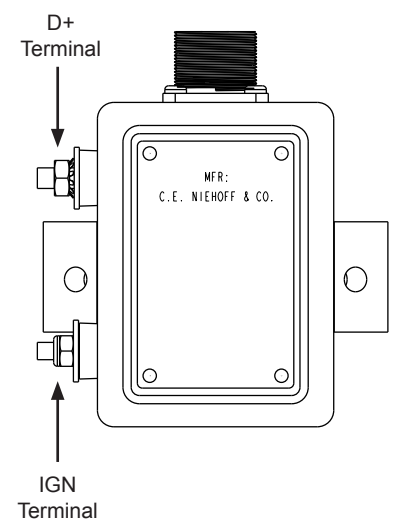

Figure 6: N3048
- D+ output terminal (optional, N3048 only): D+ circuit supplies DC battery voltage for optional use with charge indicator light or multiplex charge warning input (See Figure 6).